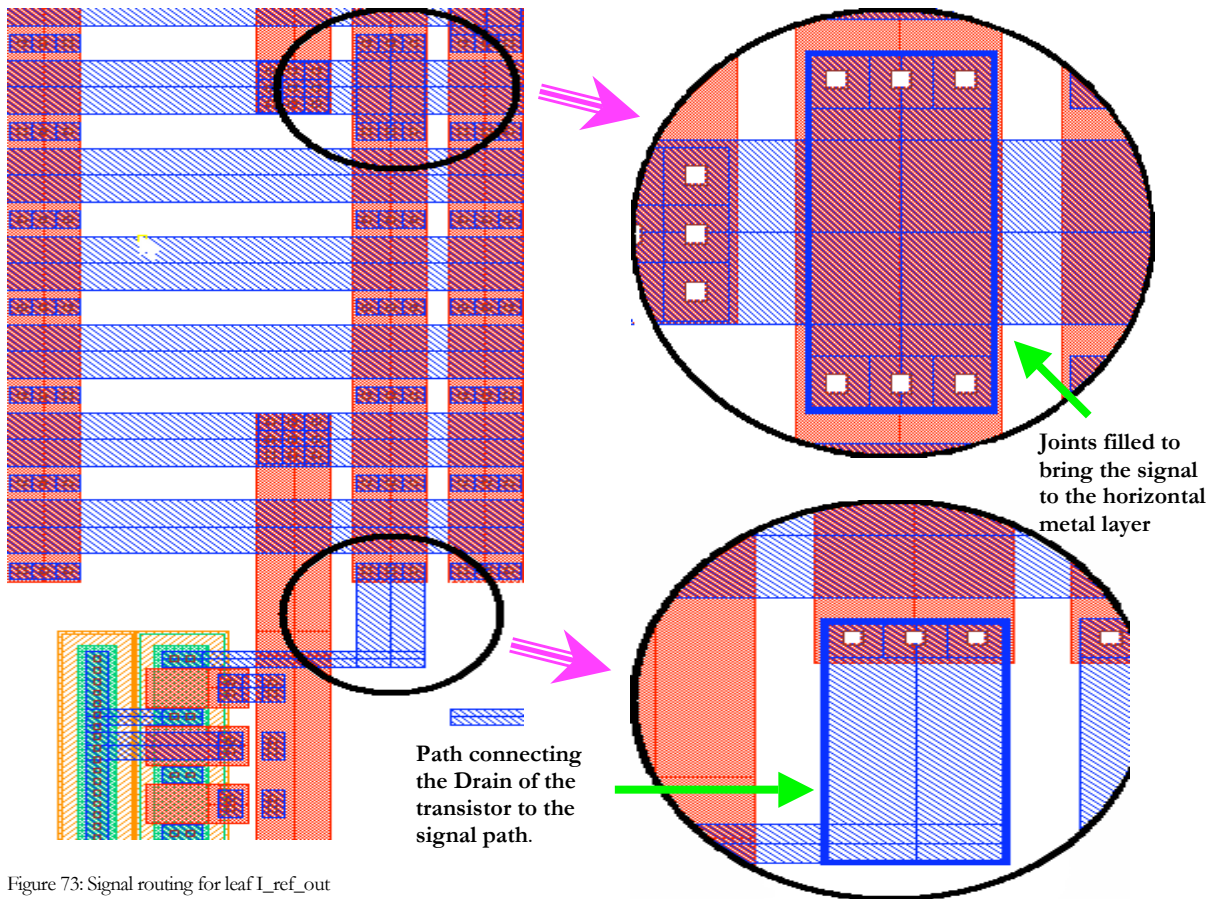

Figure 73: Signal routing for leaf I_ref_out
- After the transistors are connected with proper sizes, we need to connect the leaves together. Again, we start from the very left, which referring to the Bubble Schematic is signal I_{ref_out} . Create path with width of **6.4**, connect the Drain to the joints as in Figure 73.